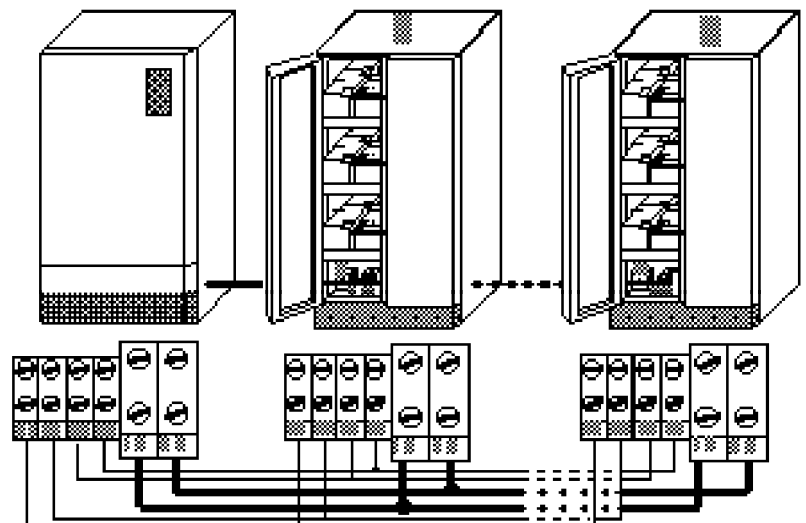

FIG. 1.12.10 UPS with additional battery cabinet
- For UPS systems with external batteries: connect the external batteries as shown in FIG. 1.12.10
For the standard battery cabinet, the terminals C1, C2, C3 and C4 are connected to the corresponding terminals in the UPS cabinet as in FIG. 1.12.10.